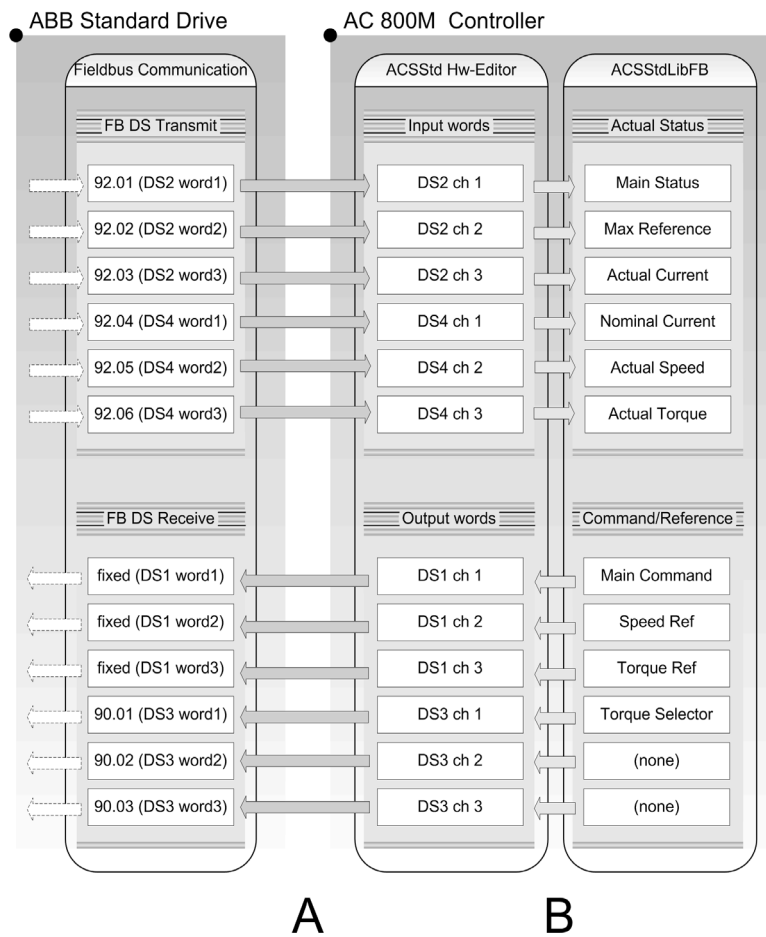
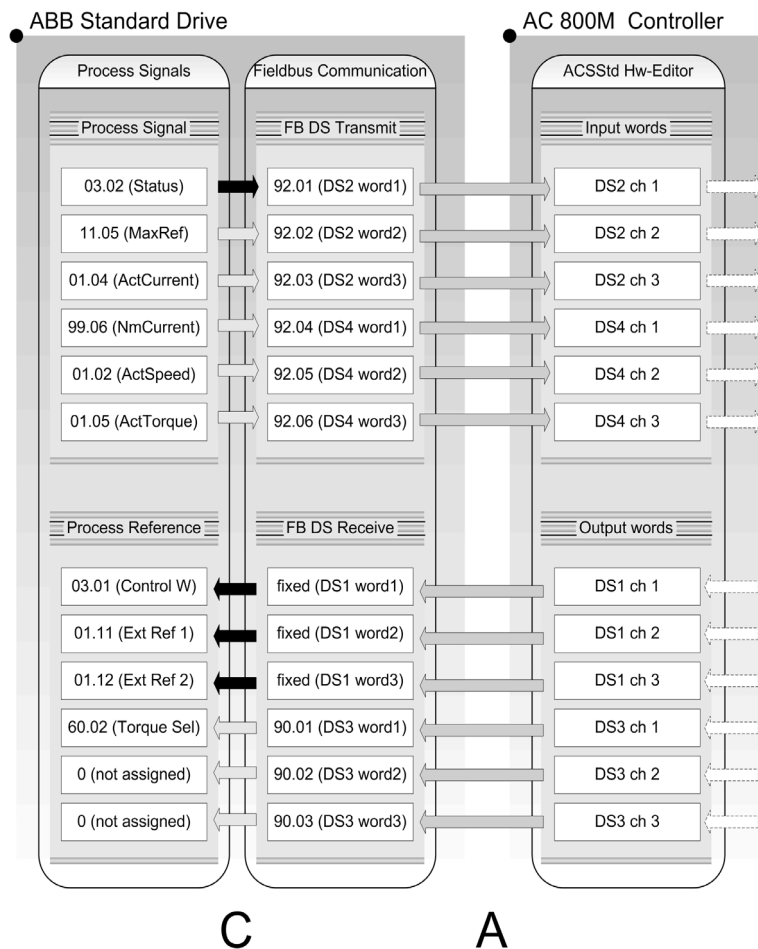

Figure 189. Overview of the connections between an ABB Standard Drive and an AC 800M Controller, part A-B
Figure 190. Overview of the connections between ABB Drive and AC 800M Controller, part C-A (black arrow = fixed connection)
Figure 189 and Figure 190 shows communication between an AC 800M Controller and an ABB Standard Drive.
- a. Establish the communication channels (part A in Figure 189 and Figure 190).
- b. Define the data to be sent and received in AC 800M Controller (part B in Figure 189).
In AC 800M, this is done by making variable connections between the ACStdDrive function block and the Hardware Editor of the applied communication interface, using variable connections. The most important thing is that the required process data on the Drive side must be connected on the same communication channel used by the corresponding data in ACStdDrive function block. For example, in Figure 189, Actual Speed in ACStdDrive function block must be connected to DS4 ch 2, so that the parameter can get the correct information.
- c. Define the data to be sent and received in the ABB Standard Drive (part C in Figure 190).
For example, define the connection between parameter index 01.02 (ActSpeed) with parameter index 92.05 (DS4 word 2) in ABB Standard Drive. How to connect those parameter indexes in the Drive is described in ABB Drives documentation. A black arrow in Figure 190 indicates a fixed connection that is not configurable.